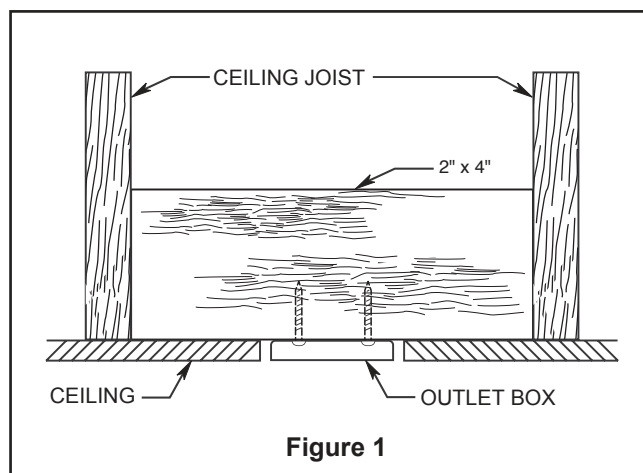
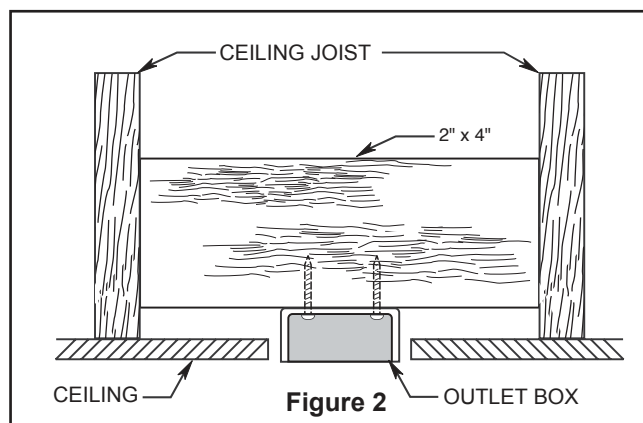
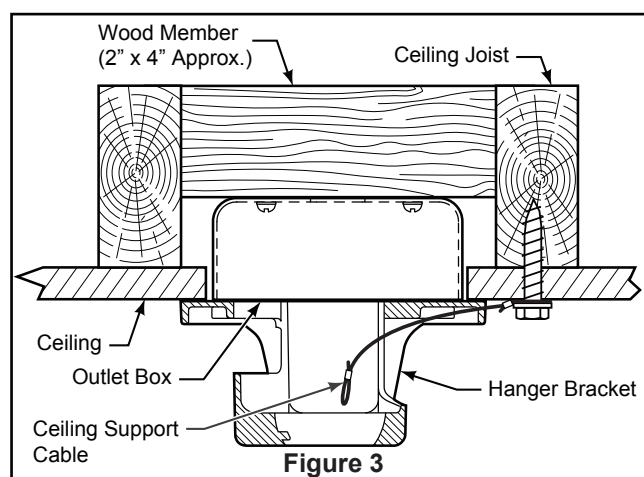

Figure 1
Figure 2
Figure 3
Your new ceiling fan will require a grounded electrical supply line of 120 volts AC, 60 HZ, 15 Amp Circuit. Electrical code requires use of a fan-rated outlet box to support the extra weight and motion associated with a ceiling fan. A fan-rated box will be labeled as such and typically supports up to a 70lbs ceiling fan. Fan-Rated Outlet Boxes vary in ratings and design. Ensure the ratings of your ceiling fan outlet box meet the requirements for the ceiling fan being installed. Figure 1, Figure 2 and Figure 3 depicts different structural configurations that may be used for mounting the outlet box.
### Low profile box (Figure 1)
### Deep box (Figure 2)
### Deep box with brace (Figure 3)
3. Loosen the two set screws and locking nuts in the downrod support of the motor assembly. Route the brown, blue, red, gray, yellow wires and safety cable through the downrod. (Figure 3)
1. Securely attach the hanger bracket to the outlet box using the outlet box screws and washers supplied with the outlet box. (Figure 3)
2. Drill a 1/4" pilot hole into the building structure to prevent splitting or cracking with installation of the lag bolt. Using the 3/8" x 2" lag bolt and flat washer, attach safety cable to ceiling joist or wood structural member. The lag bolt will pass through the flat washer, safety cable loop, and into the building structure. (Figure 3)
**NOTE:** Ceiling support cable cannot be secured to outlet box only, it must be directly secured to ceiling joist or structural member using the 3/8" x 2" lag bolt and flat washer. (Figure 3)
- 2. Slide the receiver into the hanger bracket before wiring as shown in figure 3.
3. Remove the battery cover from remote control by screwdriver and retain the screw for later. (Figure 3)